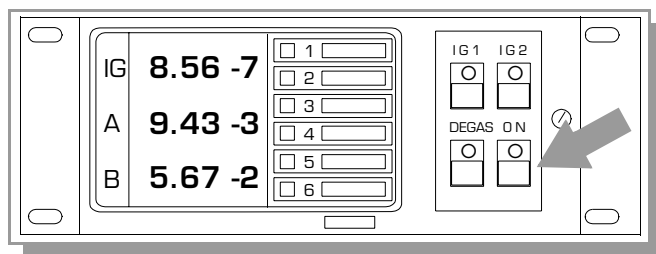

Figure 5-1 Control Unit Front Panel Showing Power ON Button.
1. Press the power ON switch on the Control Unit (see Figure 5-1).